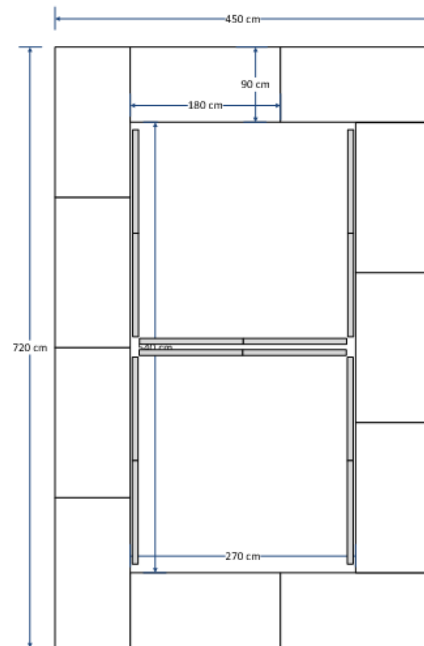

Figure 4: conferencing table
- [RQ134] 12 of the 55” UHD Monitors shall be installed inside the conference table, on the ground directed towards the opposite edge of the conference table as per Figure 4.